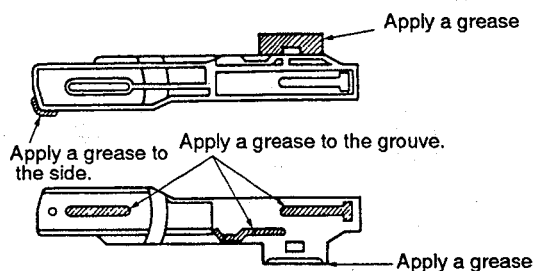

Fig. 12
- ③ Install the cam gear in the position where projection ⑤ of the cam gear comes to the front of the follow gear installation shaft..
- ① Grease the spring slanting cam. (Fig. 12)